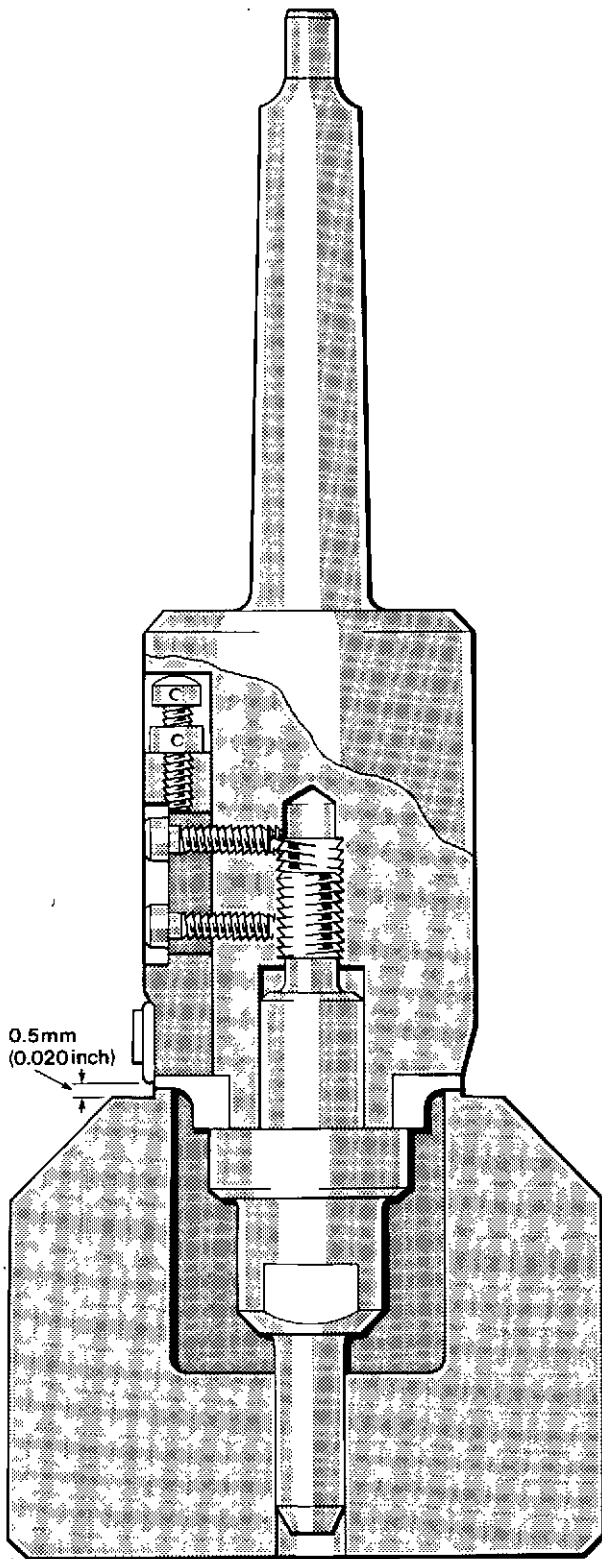

Fig 9 Rolling tool
- 44 Position the Rolling Tool, VT 18340, in its Setting Ring, VT 18341, and slacken the roller holder securing screws and adjusting screw lock nuts (fig. 9).